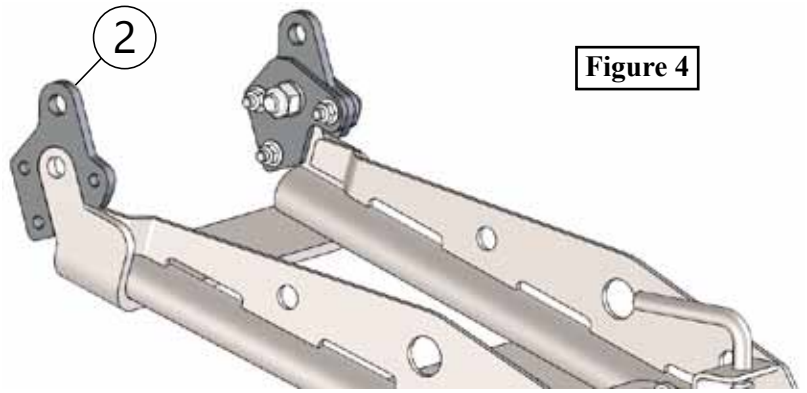

Figure 4
1. Set lift tab (2) onto the ear of the push tube as shown in **Figure 4**.